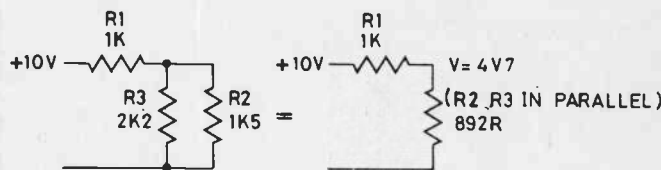

Fig. 2. How the circuit of Fig. 1 looks when the 12V terminals are shorted.
1. Imagine the 12 V terminals shorted. The circuit now looks like Fig. 2, with R2 and R3 parallel. Com-